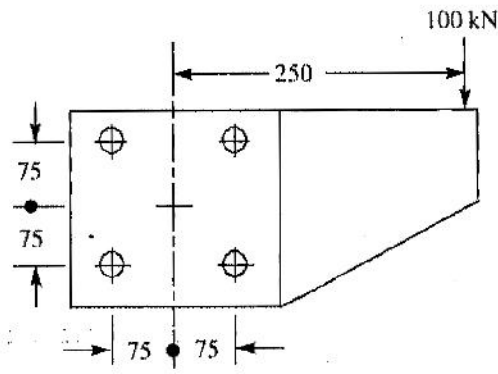

Figure Q3(b)
- b) A bracket is fixed to the wall by means of 4 identical rivets as shown in Figure Q3(b). Find out the rivet diameter considering permissible shear stress as 70 MPa. [13]